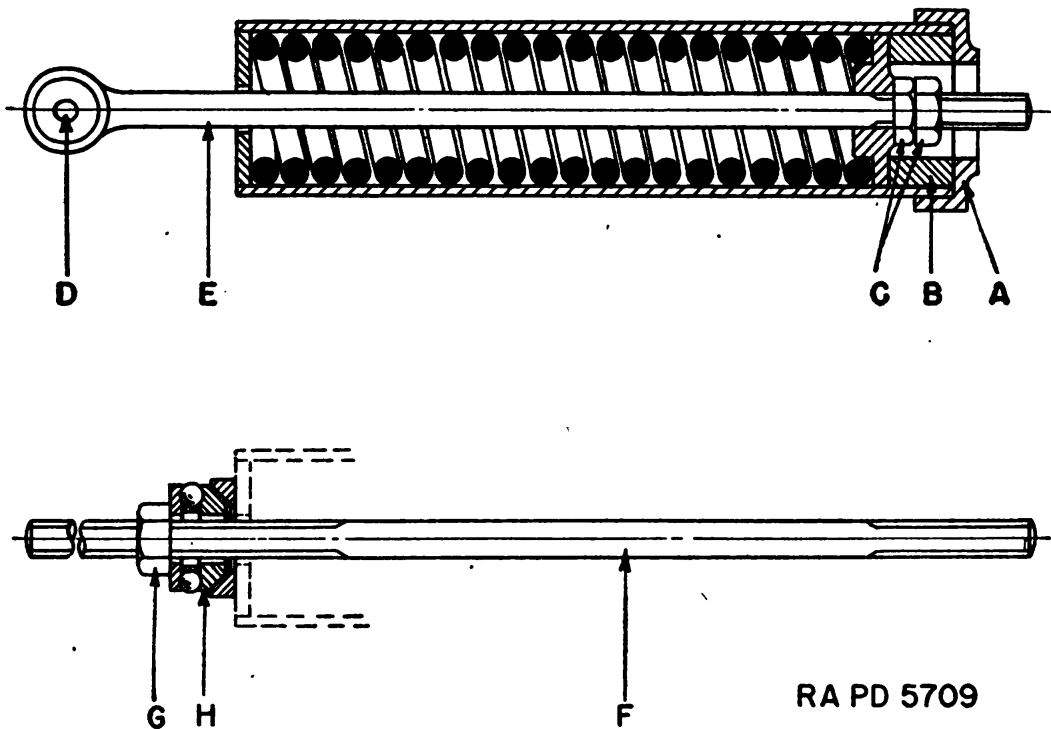
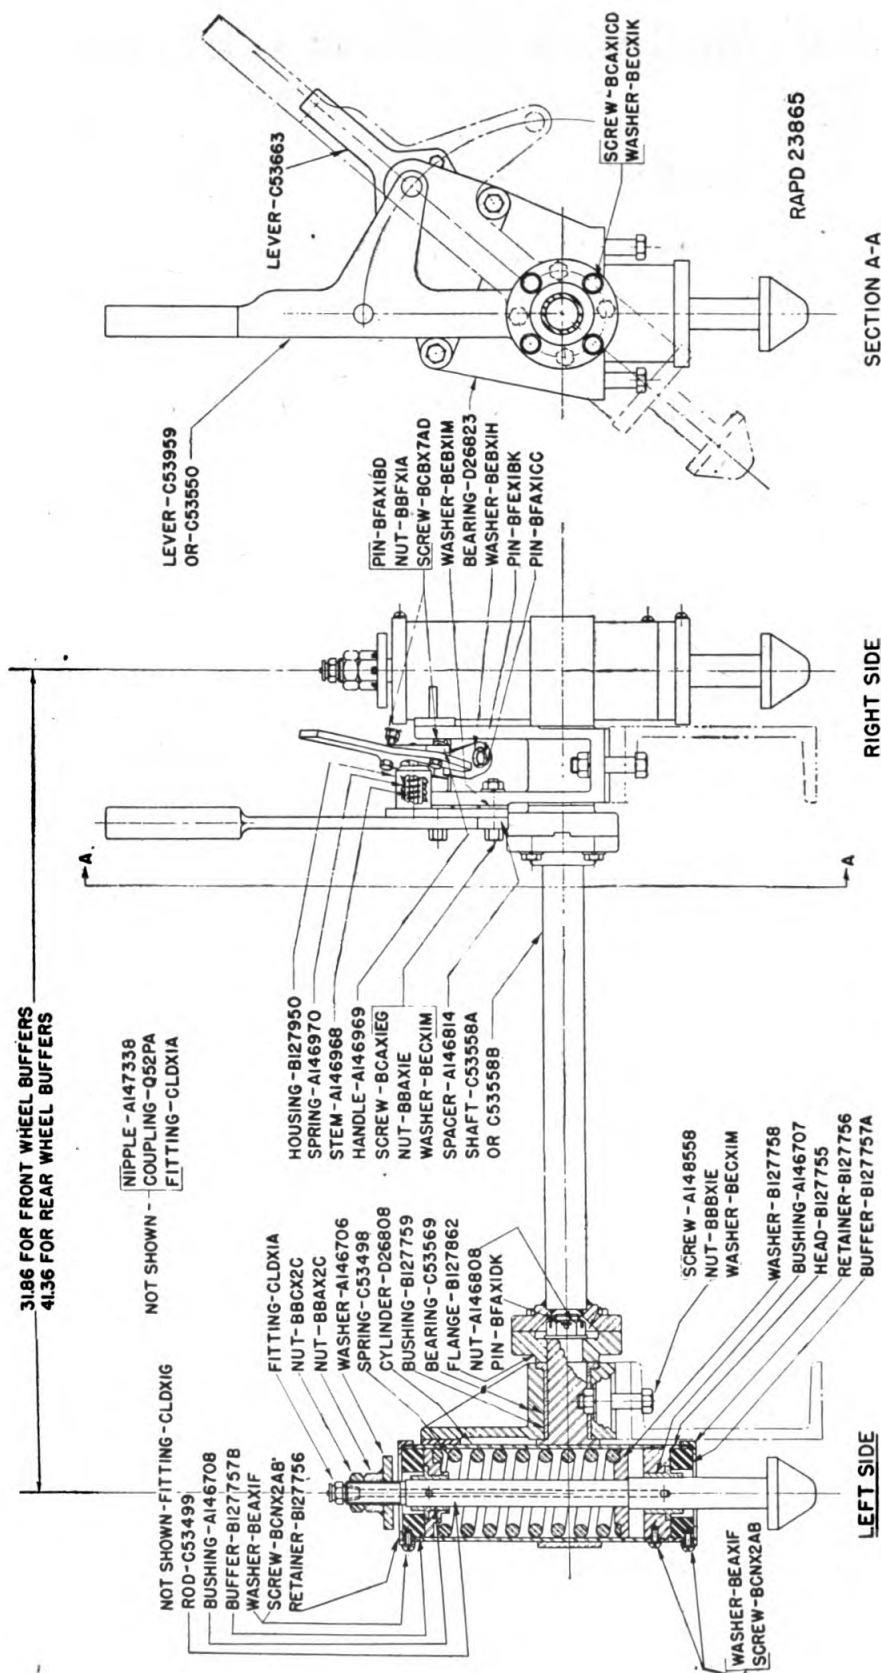
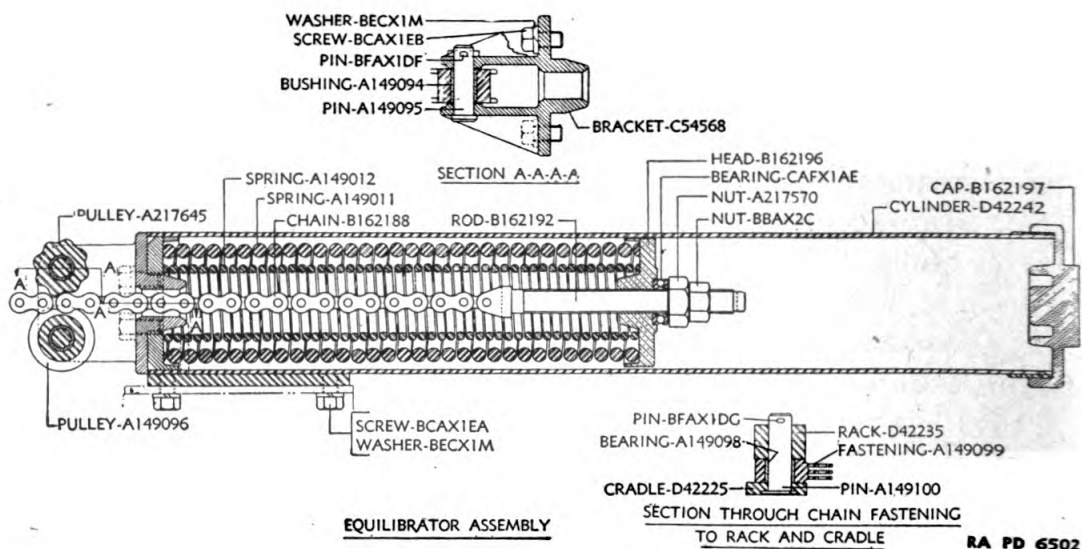

FIGURE 74.—Spring compressor for counterpoise cylinder.
FIGURE 76.—Buffer assembly.
FIGURE 77.—Equilibrator assembly M3A1.
*b.* To replace the spring in the counterpoise cylinder, the spring compressor (fig. 74) must be used. This consists of four parts:
(1) Spacing collar B.
(2) Rod F.
(3) Nut G.
(4) Ball bearing H.
*d.* Remove the top cover cap of the cylinder and cap (A) and insert the spacing collar (B) into the top of the cylinder. Replace the cap (A) and screw it down tight.
h. Tap out or pull out on the cap screw, thereby disengaging pin A146680 (pin (D) in fig. 74).
j. Slide counterpoise rod C53493 (rod (E) in fig. 74) out of the bottom of the cylinder.
k. Revolve the counterpoise cylinder to a horizontal position and replace the rod that has been removed by rod (F) (fig. 74). Rod (F) should have assembled to it the bearing (H) and nut (G). Screw nuts (C) onto the top end of rod (F) with the socket wrench.
l. Tighten the nut (G) enough to remove the pressure from the spacing collar (B). Remove the cap (A) and the spacing collar (B) and unscrew the nut (G) until the spring is released to its free length.
m. Remove nuts (C) and take the spring or springs from the cylinder.
a. *Disassembly.*—Disassemble the cylinder for replacement of the spring as follows (fig. 76):
(1) Place the carriage in firing position.
(2) Remove the upper of the two screws (BCNX2AB) and washers (BEAX1F) in the lower end of the cylinder and unscrew the head (B127755) in which is secured the lower retainer (B127756), buffer, and bushing (A146707).
(3) Remove the lubrication fitting and nut (BBCX2C) located on the top end of the buffer rod.
(4) Unscrew the second nut of the buffer rod. As this nut is turned off, the spring expands and will push the rod and washer (B127758) out of the bottom of the cylinder. If this does not occur, tap the rod down and out of the cylinder.
b. *Assembly.*—(1) Assemble by placing all parts on the rod in their proper order, as shown in figure 76, and then push the threaded end of the rod up through the cylinder. Replace the two nuts (BBAX2C and BBCX2C), screw (BCNX2AB), and washer (BEAX1F).
(2) Adjust the buffer by means of the two nuts (BBCX2C and BBAX2C) so that the buffer will just rest on the axle arm in traveling position. During travel the two front buffers should be equally depressed by the axle arms; likewise the two rear buffers.
**83. Replacement of equilibrator springs (fig. 77).**—a. Remove the gun from the cradle.